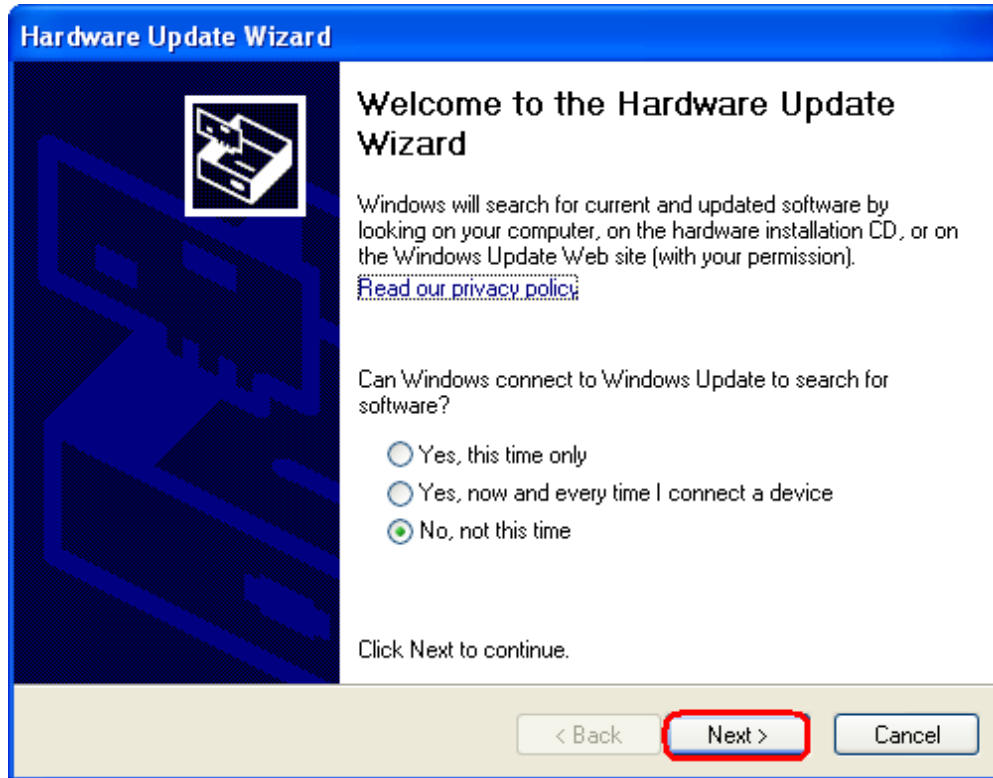

Figure 7-18: Hardware Update Wizard
Step 5: The **HARDWARE UPDATE WIZARD** in **Figure 7-18** appears.
Step 7: Select **NO, NOT THIS TIME** in **Figure 7-18** and click **NEXT**.